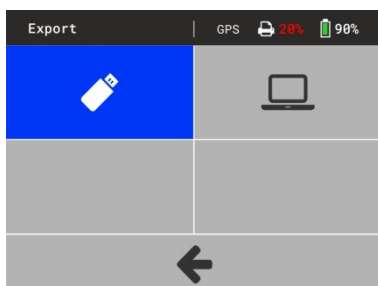

Figure 23
- Select within measuring instrument under menu measured data  / export  the transfer mode  (Figure 23) and confirm with  key.